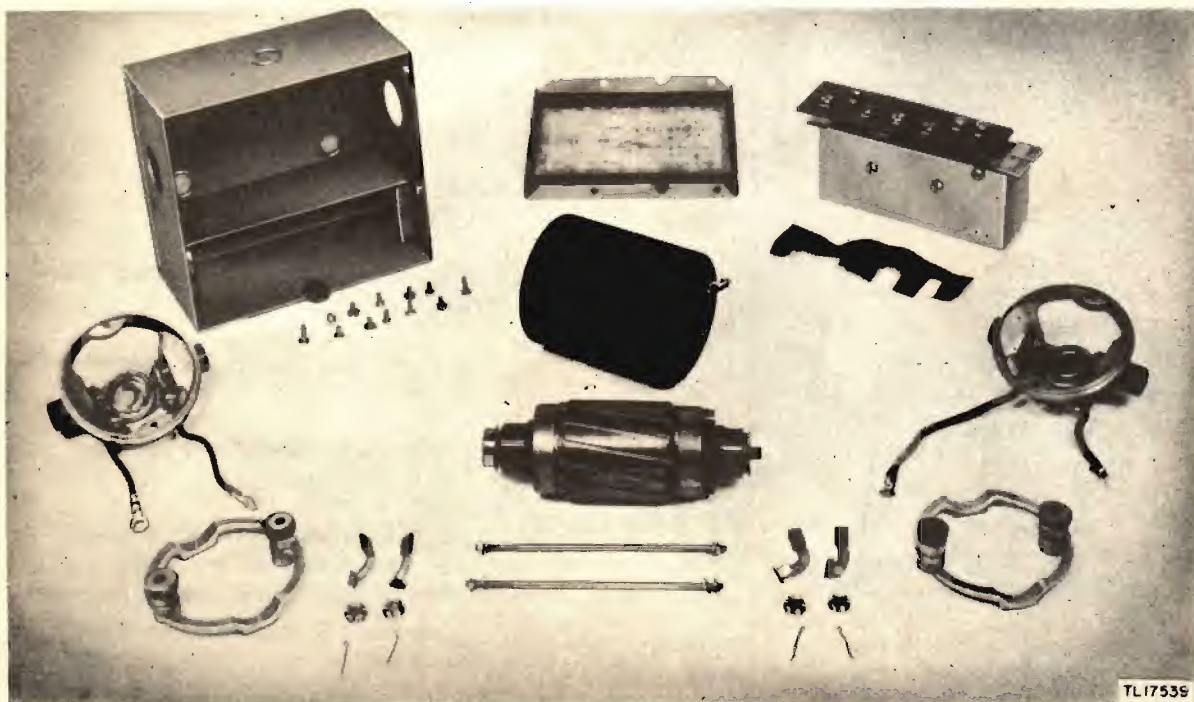

Figure 8. Dynamotor parts.
**b. CLEANING (FIG. 8).** Do not dismantle dynamotors which operate normally and have only small deposits of carbon dust on brush holders. Clean them with a cloth moistened with petroleum spirits. Dismantle dynamotors which show evidence of excessive use and large deposits of carbon dust and grease; clean as follows:
- (1) Remove the dynamotor from the housing by removing the four screws in each end of the case and disconnecting the leads.
- (2) Remove the brush holder caps and brushes on both low-voltage and high-voltage ends. Mark each brush so that it can be replaced in the same position in the same holder.
- (3) Disconnect the leads to the brush holders; mark each lead so that it may be connected properly when the unit is reassembled.
- (4) Remove the nuts on the tie rods at the high-voltage end, and remove bearing bracket.
- (5) Pull out the armature.
- (6) Remove the bearing bracket from the low-voltage end.
- (7) Clean the bearing brackets, brush holders, bearing cover plates, and spacer shims with a cloth moistened with petroleum spirits.
- (8) Blow loose dust and dirt out of stator assembly; if necessary, clean metal parts with #0000 sandpaper and petroleum spirits. Blow out resultant sand and metal fillings with compressed air. Field coils may be cleaned with a small sash brush and wiped with a cloth moistened with petroleum spirits.
- (9) Clean the armature, including the commutator, with a cloth moistened with petroleum spirits; wipe with a clean cloth.
- (10) If the commutator is slightly rough, smooth with #0000 sandpaper. Remove sand and metal fillings with a small piece of coarse canvas. Cover the bearings before cleaning the armature and commutator.